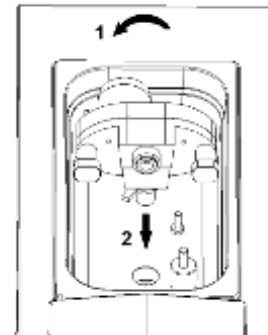

Fig. 42
- Remove the pump by first rotating it counter-clockwise (1) and then by pulling it towards the upper tank centre (2) in order to disassemble it from its shaft (Fig. 42).